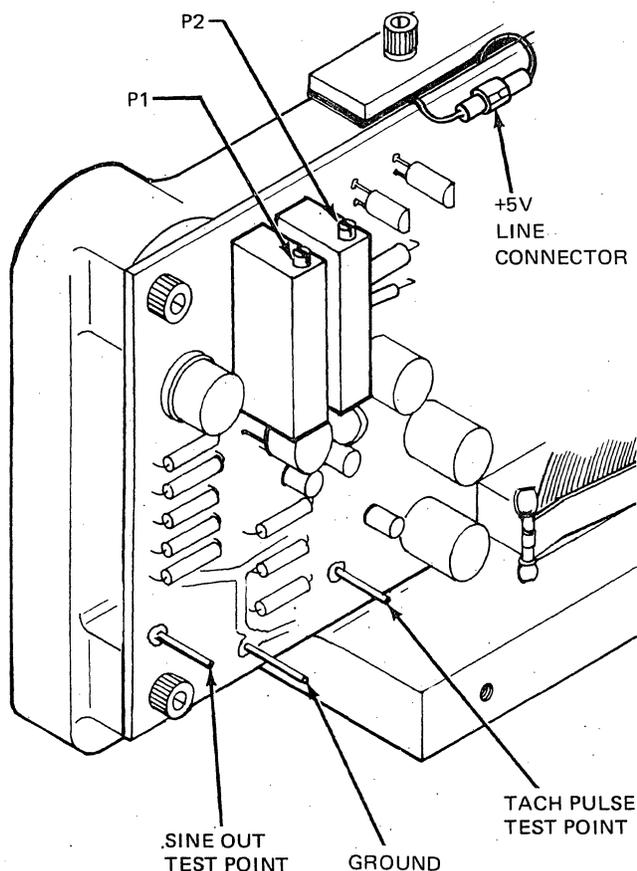

Figure 4-26. Tachometer Board
3. Connect a scope to the sine output test point on the tach board shown in Figure 4-26.